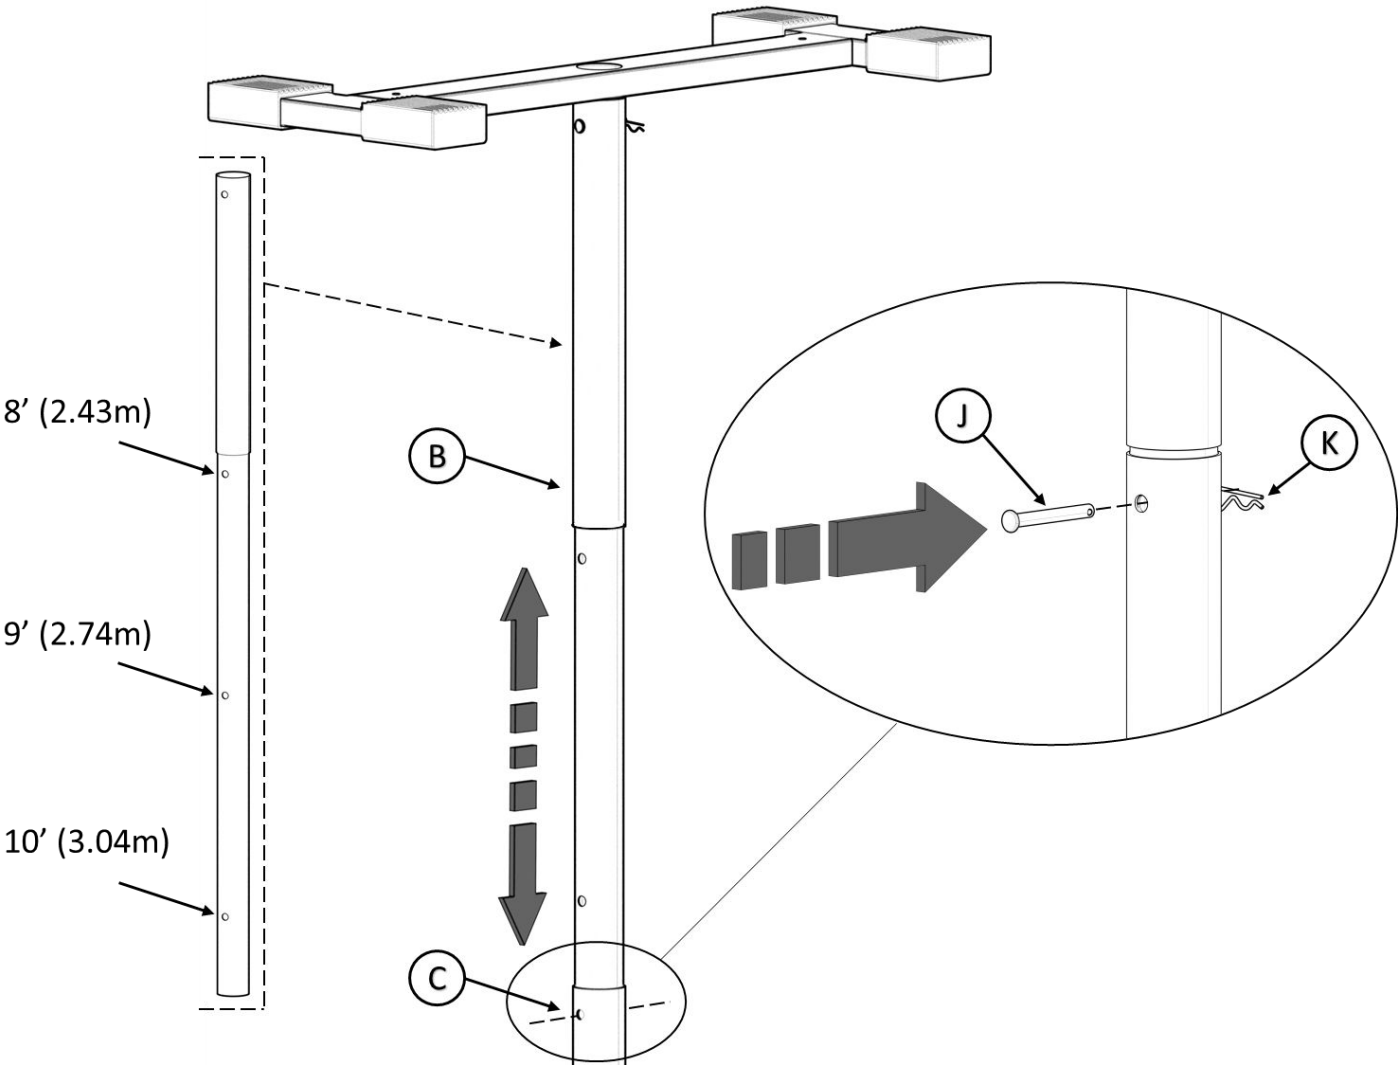

FIGURE 3
3. Determine height between the floor and ceiling and align the appropriate hole in **B** with the hole in **C** and insert **J** as shown in *FIGURE 3*. Insert **K** through **J** to secure.